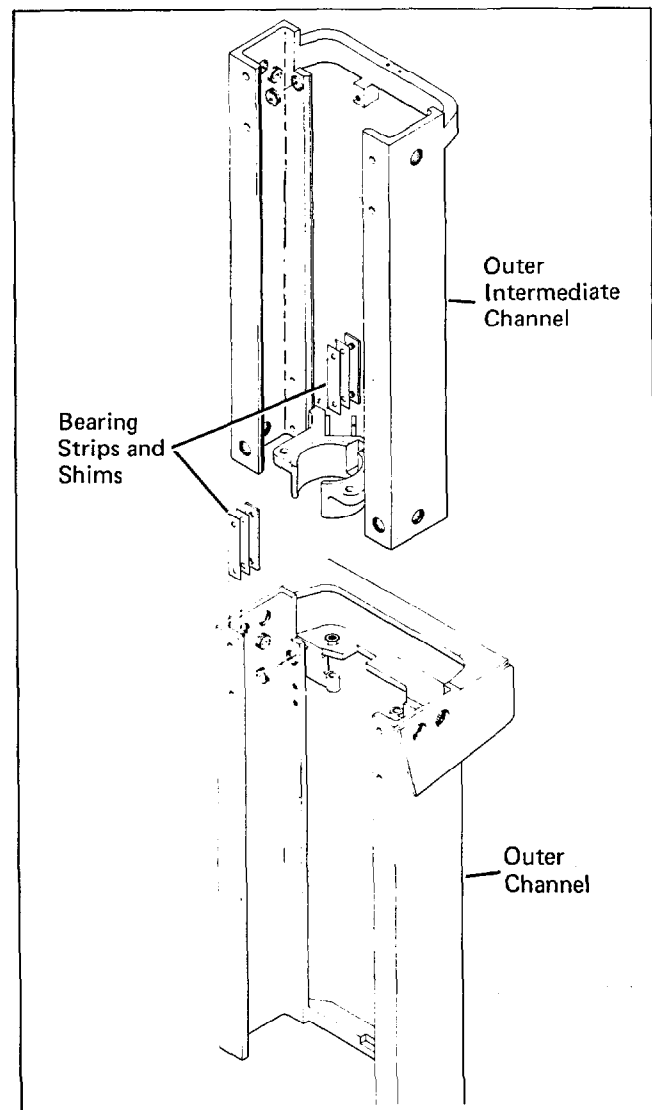

Figure 4-21 Channel Assembly
7. Install the outer intermediate channel in the outer channel as follows (see figure 4-21):